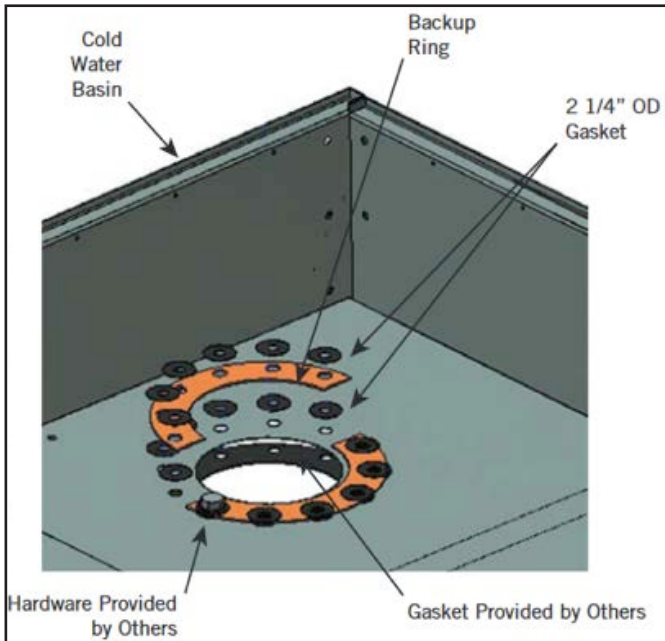

Figure 7 – Bottom Water Outlet
1. The bottom connection seal, Figure 7, is typical for all bottom remote sump outlets. Flange mounting hardware and gasket to be supplied by others.